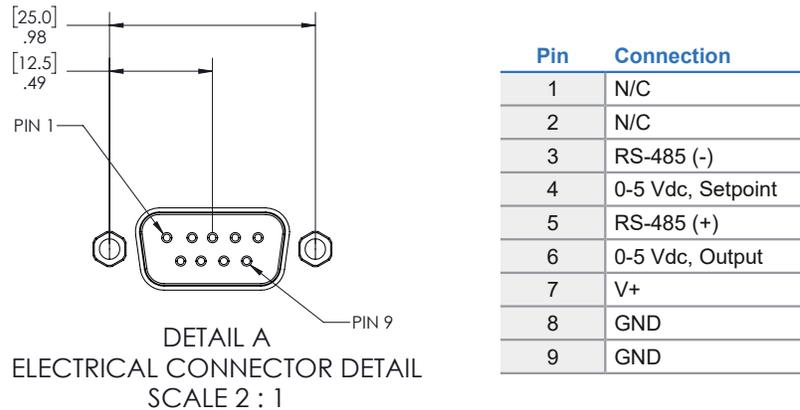

Figure 1-2 GC Series DB9 Modbus via RS-485 Connector and Pinouts
10. Make sure the power source is at the off status before connecting electrical wires per the wire definition in Figure 1-2. Please be sure of the power supply range (i.e., 11-27 VDC). If an adapter is used, make sure the adapter meets industrial standards and has all safety certifications.